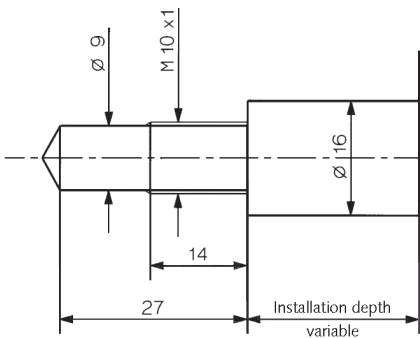

Fig. 3: Mounting hole with conical bottom
- Prepare the mounting hole as shown in Figure 3; the 9 mm  $\varnothing$  end bearing surface for the sensor must be machined clean and flat (and if necessary finished with Type 1300A21 tool and blown out with clean compressed air).